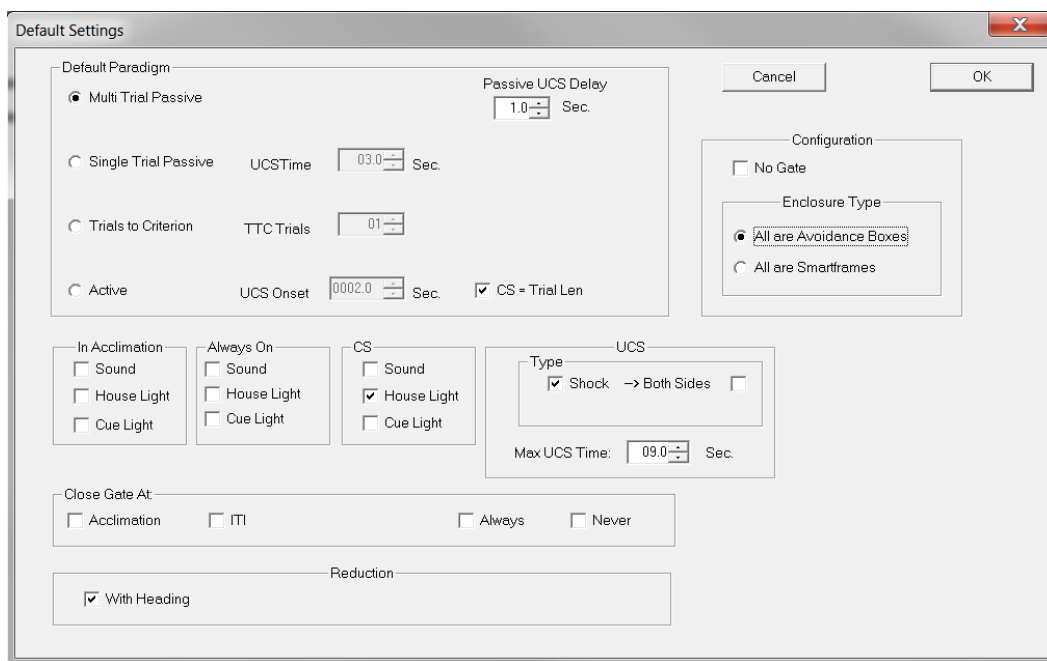

Figure 2-6. Default Settings Screen
2.1.4 Setting the Default Settings The **Default Settings** screen is a keystroke reduction feature that allows you to create your own default session parameters. Most of the settings on this screen are duplicates of the settings that appear on the session screens. Selections made from this screen will be reflected on the appropriate session screens; i.e., you can pre-select and pre-fill specific parameters from this screen before starting a session. This is particularly helpful if you are repeatedly creating sessions with the same values. Select **Default Settings** from the **Setup** menu and the **Default Settings** screen will appear as shown in Figure 2-6.